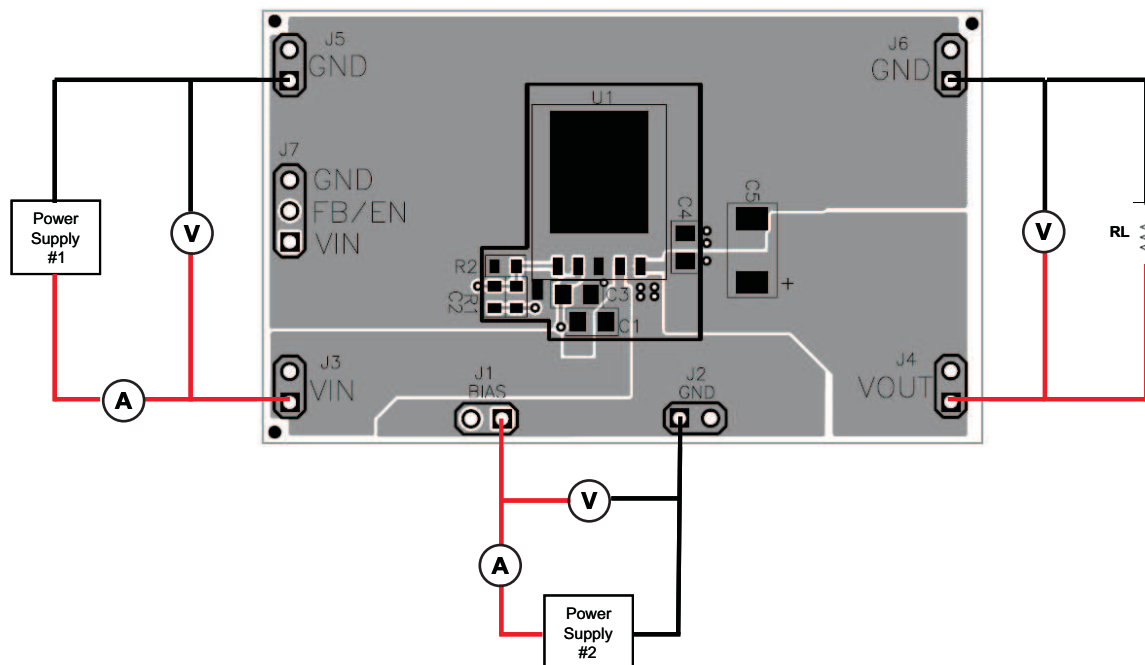

Figure 2. Quick Start Connection Setup
1. Connect power supply #1 to V_{IN} (J3) and its return connection to J5 as shown in Figure 2. V_{IN} should be at least 300mV (or V_{DO}) greater than V_{OUT} , up to 5.5V.
2. Connect power supply #2 to V_{BIAS} (J1) and its return connection to J2 as shown in Figure 2. V_{BIAS} must be between 3.0V and 5.5V.